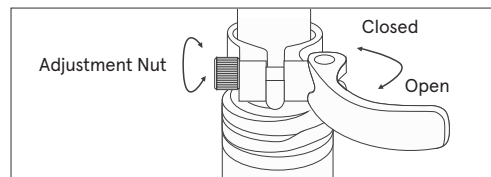

Fig. 9
1. Open the seat post quick release lever (Fig.9). Apply a small amount of grease to the seatpost. Insert the seat post into the seat tube to sufficient depth so that the minimum insertion line is no longer visible. **NOTE:** The lever should require some force to close. If it closes too easily and does not hold the seat post in place, or if the effort to close the clamp is too great, adjust the clamping force by loosening or tightening the adjusting nut on the side opposite the lever.